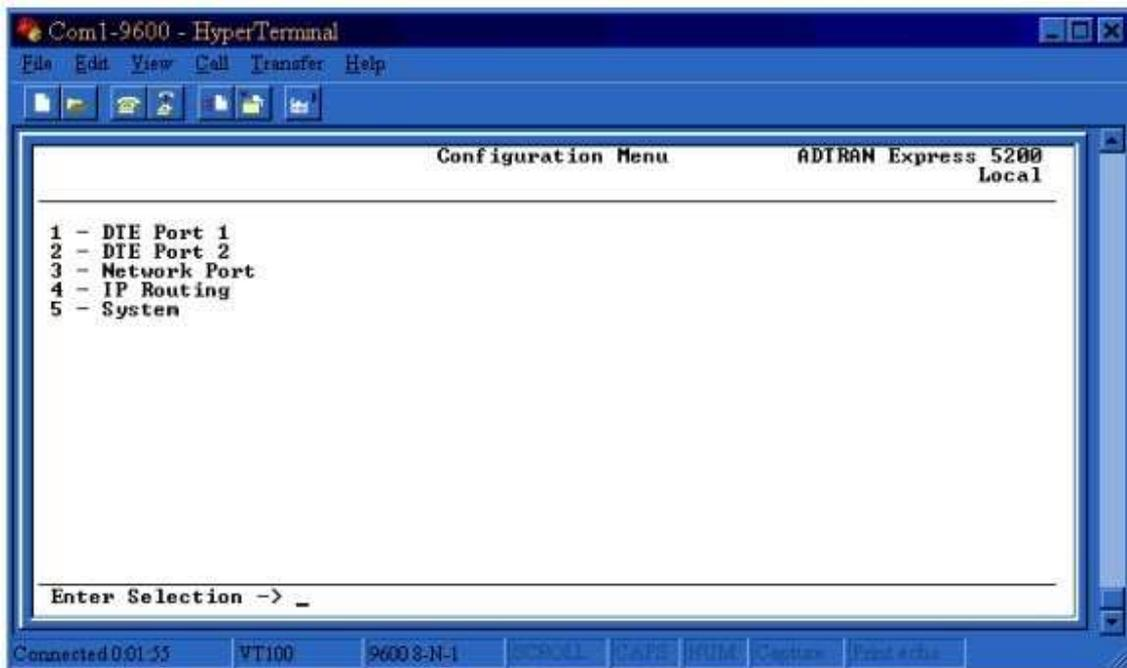
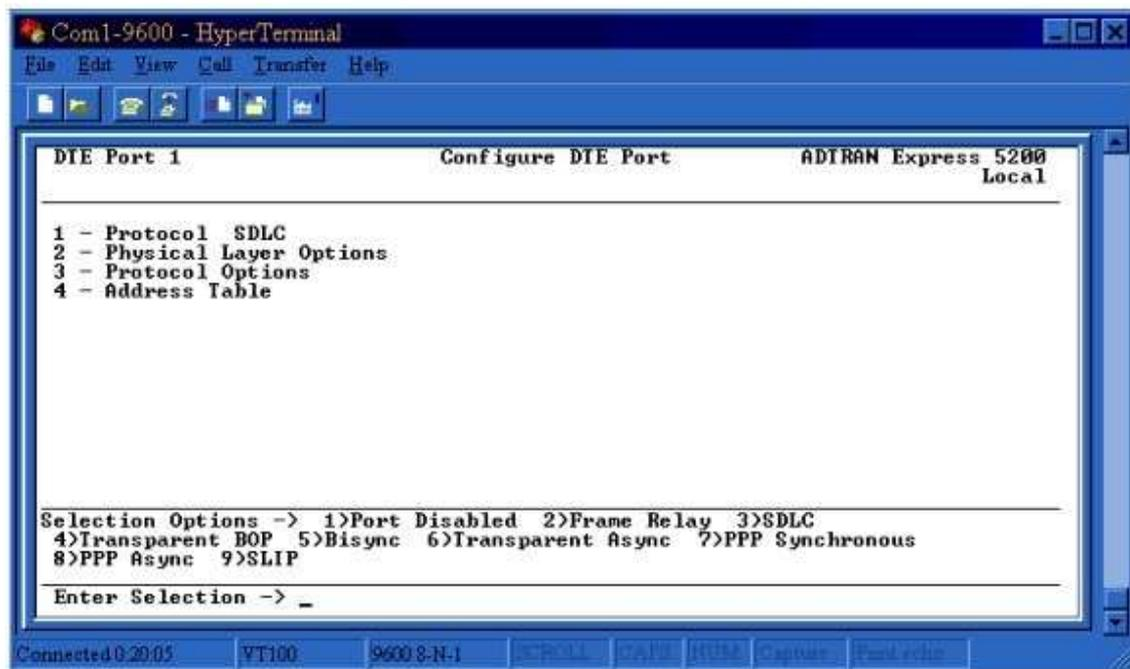

Figure 3
Figure 9
1. Enter 1 and press <enter> to select **Configuration**. See Figure 3.
7. Press <Esc> twice to return to the menu shown in Figure 3. Enter 1 and press <enter> to select **DTE Port 1**. Enter 1 and press <enter> to select Protocol. Select **SDLC** as the **Protocol**. The menu in Figure 9 will be displayed.